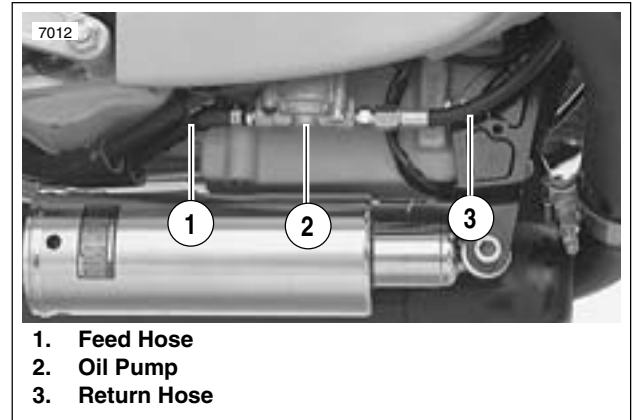

Figure 3-48. Oil Pump Connections (Typical)
See Figure 3-48. The feed (1) and return hoses (3) run together between the swingarm mount block and crankcase. Protective covers prevent damage to the hoses. The hoses continue on beneath the engine and forward to the oil pump. The feed hose (1) attaches to the rear most oil pump fitting; the return hose (3) connects forward and above.